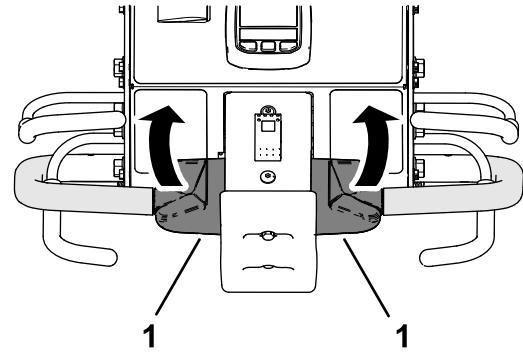

Figure 38
3. While holding the operator-presence bail and aerate bail, rotate the top of the traction control backward (Figure 38).